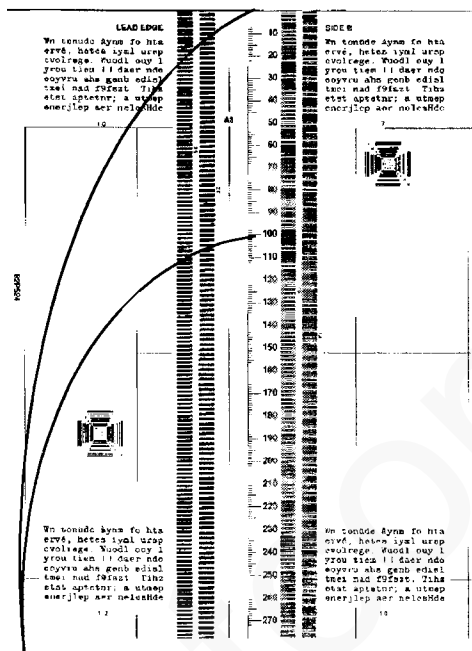

Figure 1. Checking the Magnification
3. Check the third copy. Compare the magnification scale of the copy with the scale on the test pattern (Figure 1).
6. Check the third copy. Compare the magnification scale of the copy with the scale on the test pattern (Figure 1).